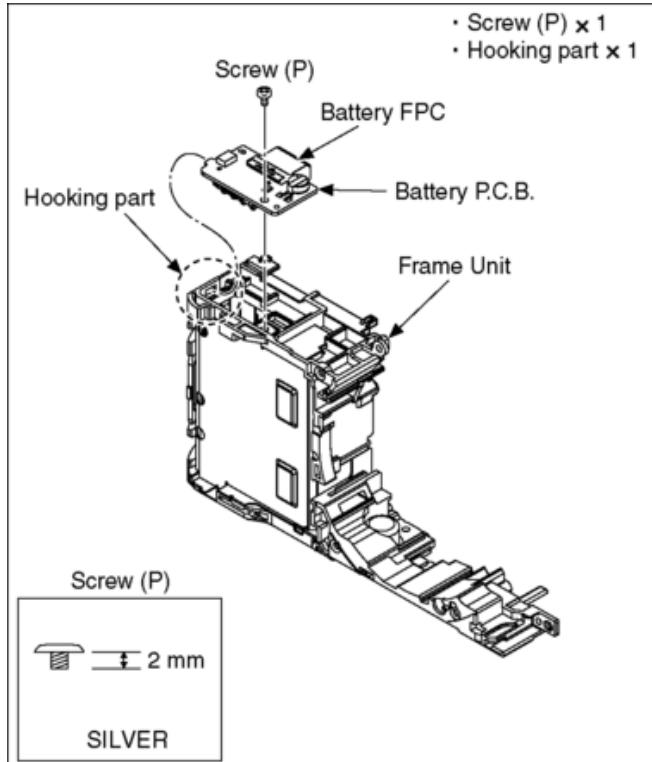

Fig. D16
| 13 | Battery P.C.B. | (Fig. D16) | Screw (P) × 1 Hooking part × 1 Battery FPC Battery P.C.B. |